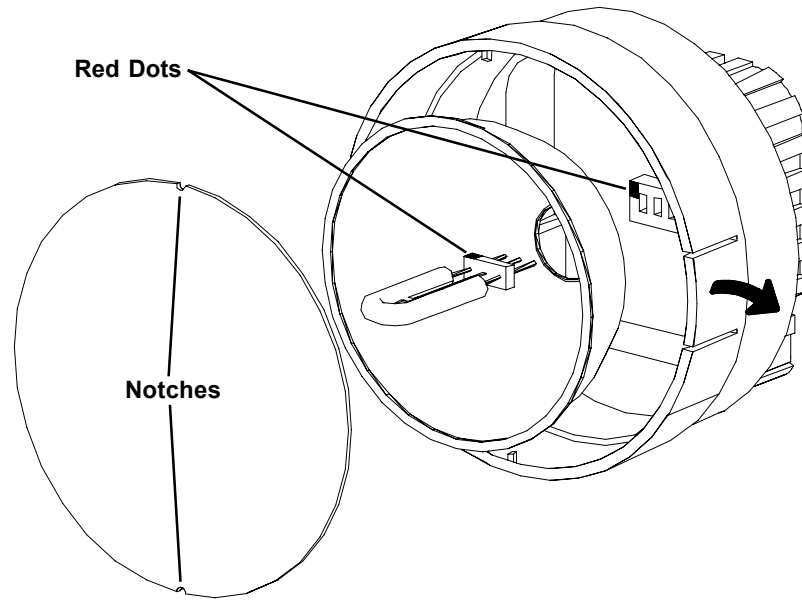

Figure 6 Lamp Replacement
3. The lamps are polarized and must be put into the socket matching polarity. **Using a lint free cloth, match up the red dot on the plug with the red dot on the socket** and gently rock the lamp back and forth while pushing it into place (see Figure 6). Make sure the lamp is in straight and centered in the reflector hole.
4. Reinstall the reflector and then position the front lens in place matching up the notches on the lens with the two small tabs on the housing to prevent lens rotation (see Figure 6). Push the tabs on the front rim outward and press the lens into place.